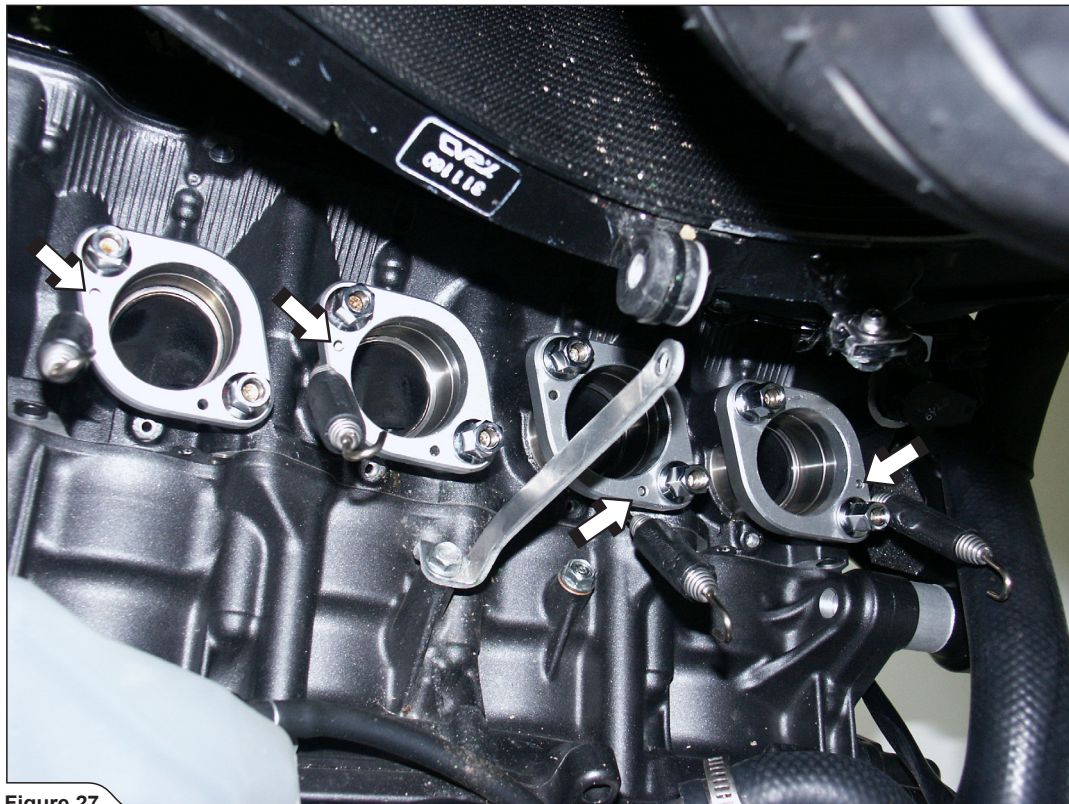

Figure 27
1. Set up the sleeves together with the flanges and springs. Make sure that springs are attached into the marked holes. Do not tighten up the flanges (**Figure 27**).